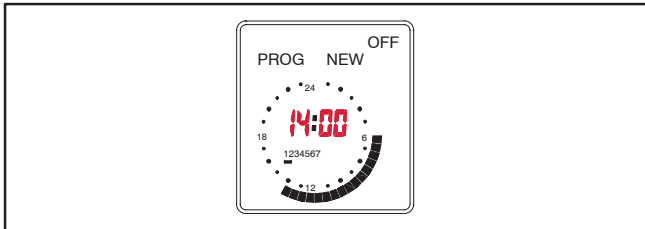

FIGURE 12. SETTING THE EXERCISE STOP TIME
- 6.. Press the **OK** button. The starting time is still displayed and “OFF” is now displayed in the upper right corner of the screen (see Figure 12). Press the + button to set the exercise stop time.